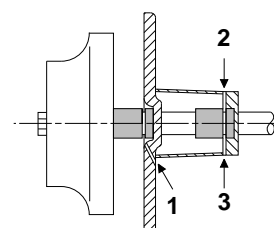

**Fig. 2** Tandem seal arrangement with two separate shaft seals in a seal chamber
In this tandem shaft seal arrangement, the seal chamber has three connections. See fig. 2 and fig. 3. Pos. 1 leads to the pumped liquid side of the shaft seal, and pos. 2 and 3 lead to the seal chamber. All connections are close to the seal faces of the shaft seals.
1. Connect the inlet and outlet of the seal chamber/cartridge seal by means of a suitable pipe or hose connection. See figures 2 and 4.
Unscrew the two connections (pos. 2 and 3, fig. 2).